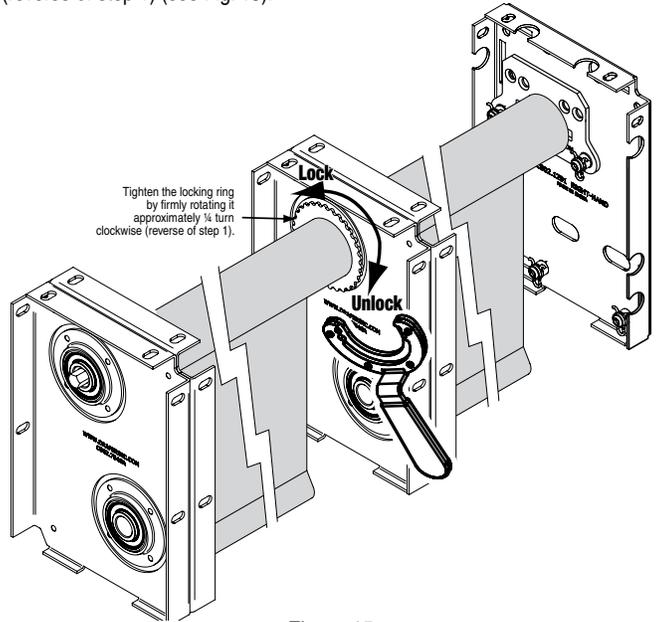

Figure 15
- 5 Tighten the locking ring by firmly rotating it approximately 1/4 turn clockwise (reverse of step 1) (see Fig. 15).